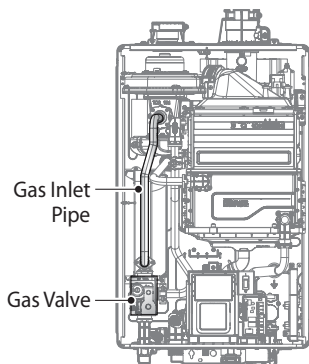

Figure 2. NPE-A2/S2 Series Internal Components
3. Once the front cover is removed, place it in a safe location to prevent accidental damage. With the internal components exposed, locate the gas inlet pipe and the Gas Valve near the left side of the unit which are highlighted in Figure 2.